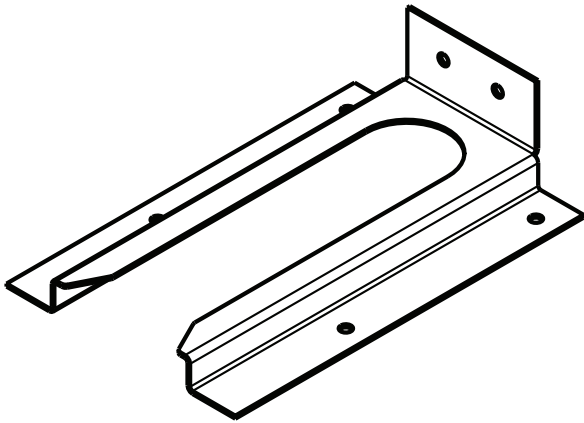
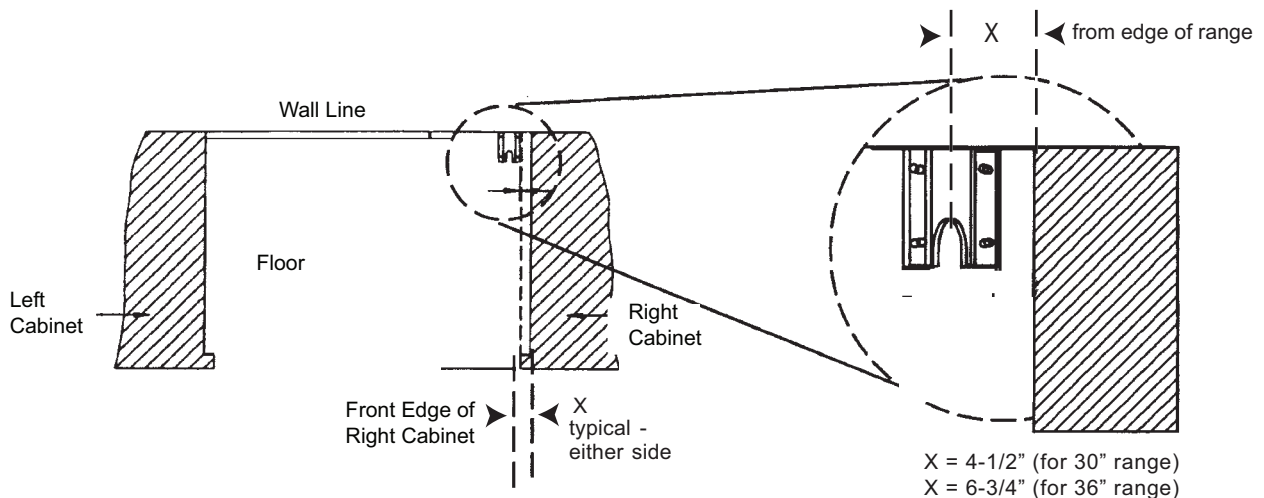

Figure 6: Anti-tip Bracket
Figure 7: Placement of Anti-Tip Bracket (Top View)
For 30" and 36" Dual Fuel Ranges (Figure 6 and Figure 7)
1. Place bracket on floor in position shown in Figure 7 (Bracket may be used in either corner of the installation area).